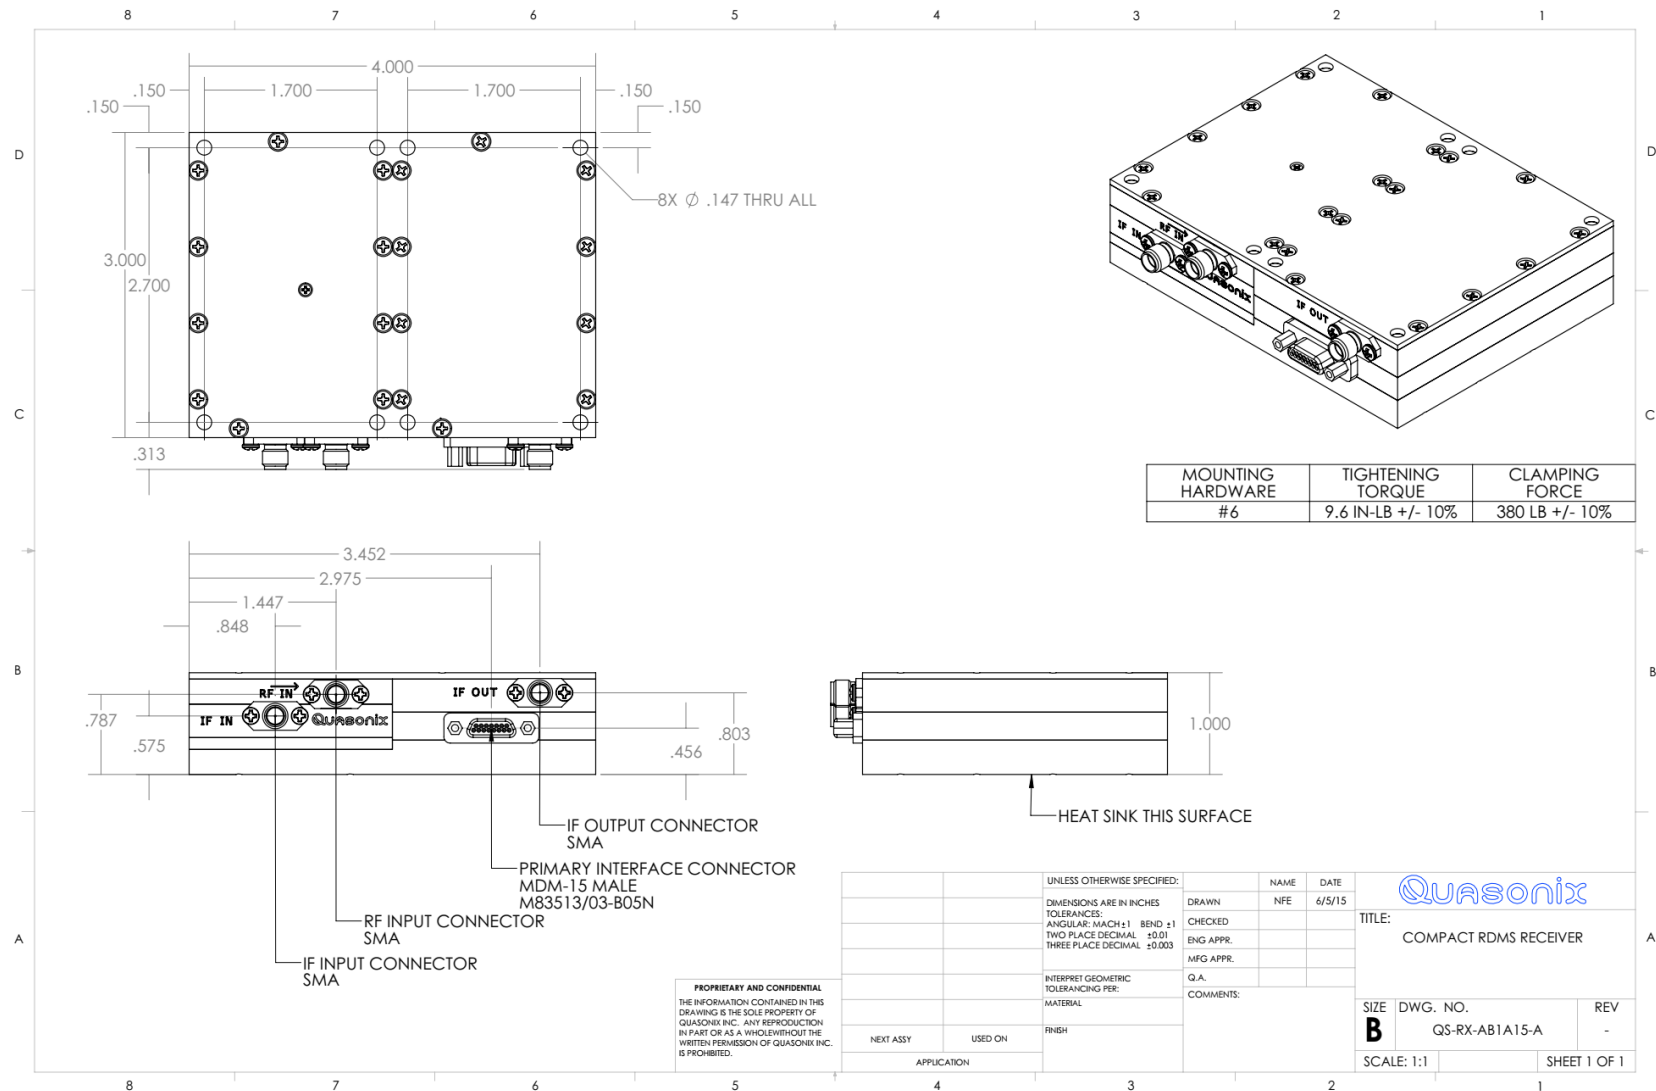

Figure 2: 3rd Generation RDMS™ in 4.00" x 3.00" x 1.00" Compact Housing
The Compact RDMS™ is designed to be mounted by eight (8) 6-32 screws through the holes along the front and back edges, as depicted in Figure 2 on the following page.